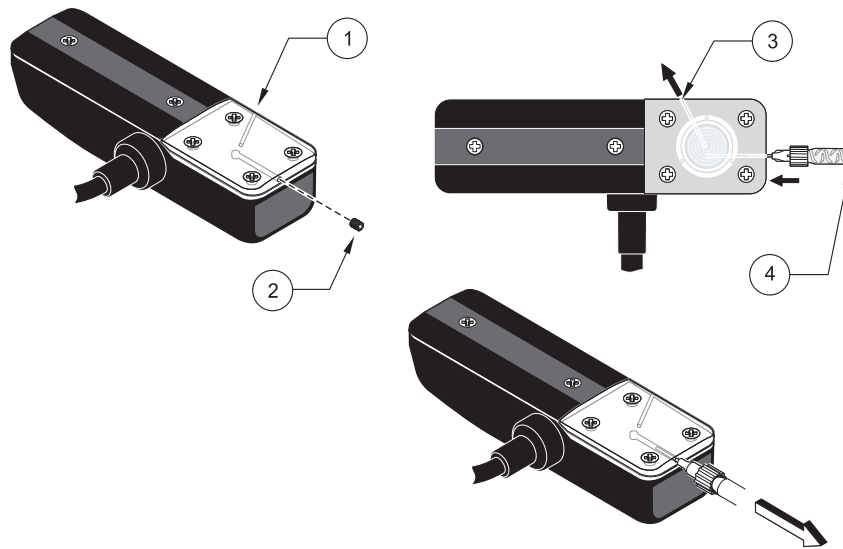

Figure 37 Oil Replenishment
7. Insert the syringe tip slowly into the set screw hole and dispense the oil (Figure 37 on page 63).
Note: While dispensing the oil, hold the probe at an angle to allow the air to be pushed out the side port (Figure 37 on page 63).